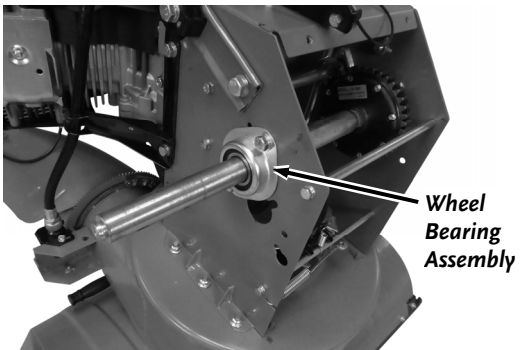

Figure 71
8. Remove the two Bolts, Lock Washers, Flat Washers, and Locknuts that secure the left side Wheel Bearing Assembly using two 13mm Wrenches and remove the Bearing Assembly from the Axle (**Figure 71**).
9. Install the left side Wheel Bearing Assembly (**Figure 71**).